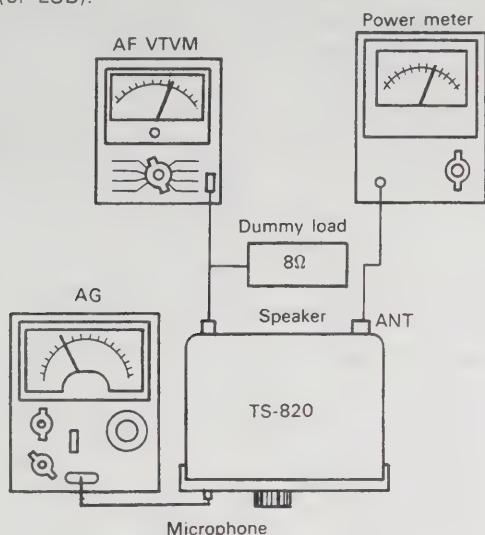

Fig. 38 Adjustment of monitor level
- 1) If **Fig. 38**, make adjustment until full power is obtained at 14.175 MHz, CW, and set the MODE switch to SSB \bar{c} (or LSB).